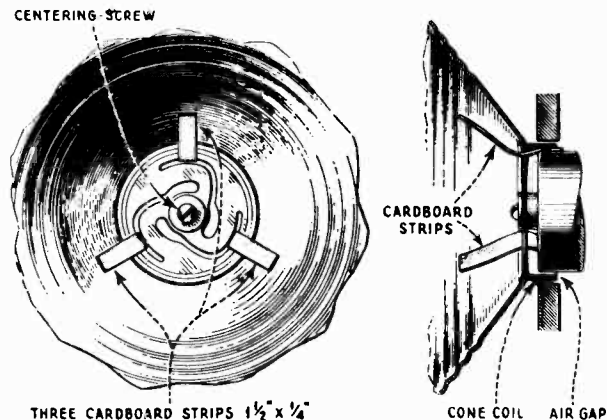

Figure 16—View of Strips in Place for Centering Cone
- (e) Place three pieces of cardboard the thickness of a visiting card and approximately  $1\frac{1}{2}$ " x  $\frac{1}{4}$ " in size in the space between the inside of the cone coil and the pole piece. See Figure 16.